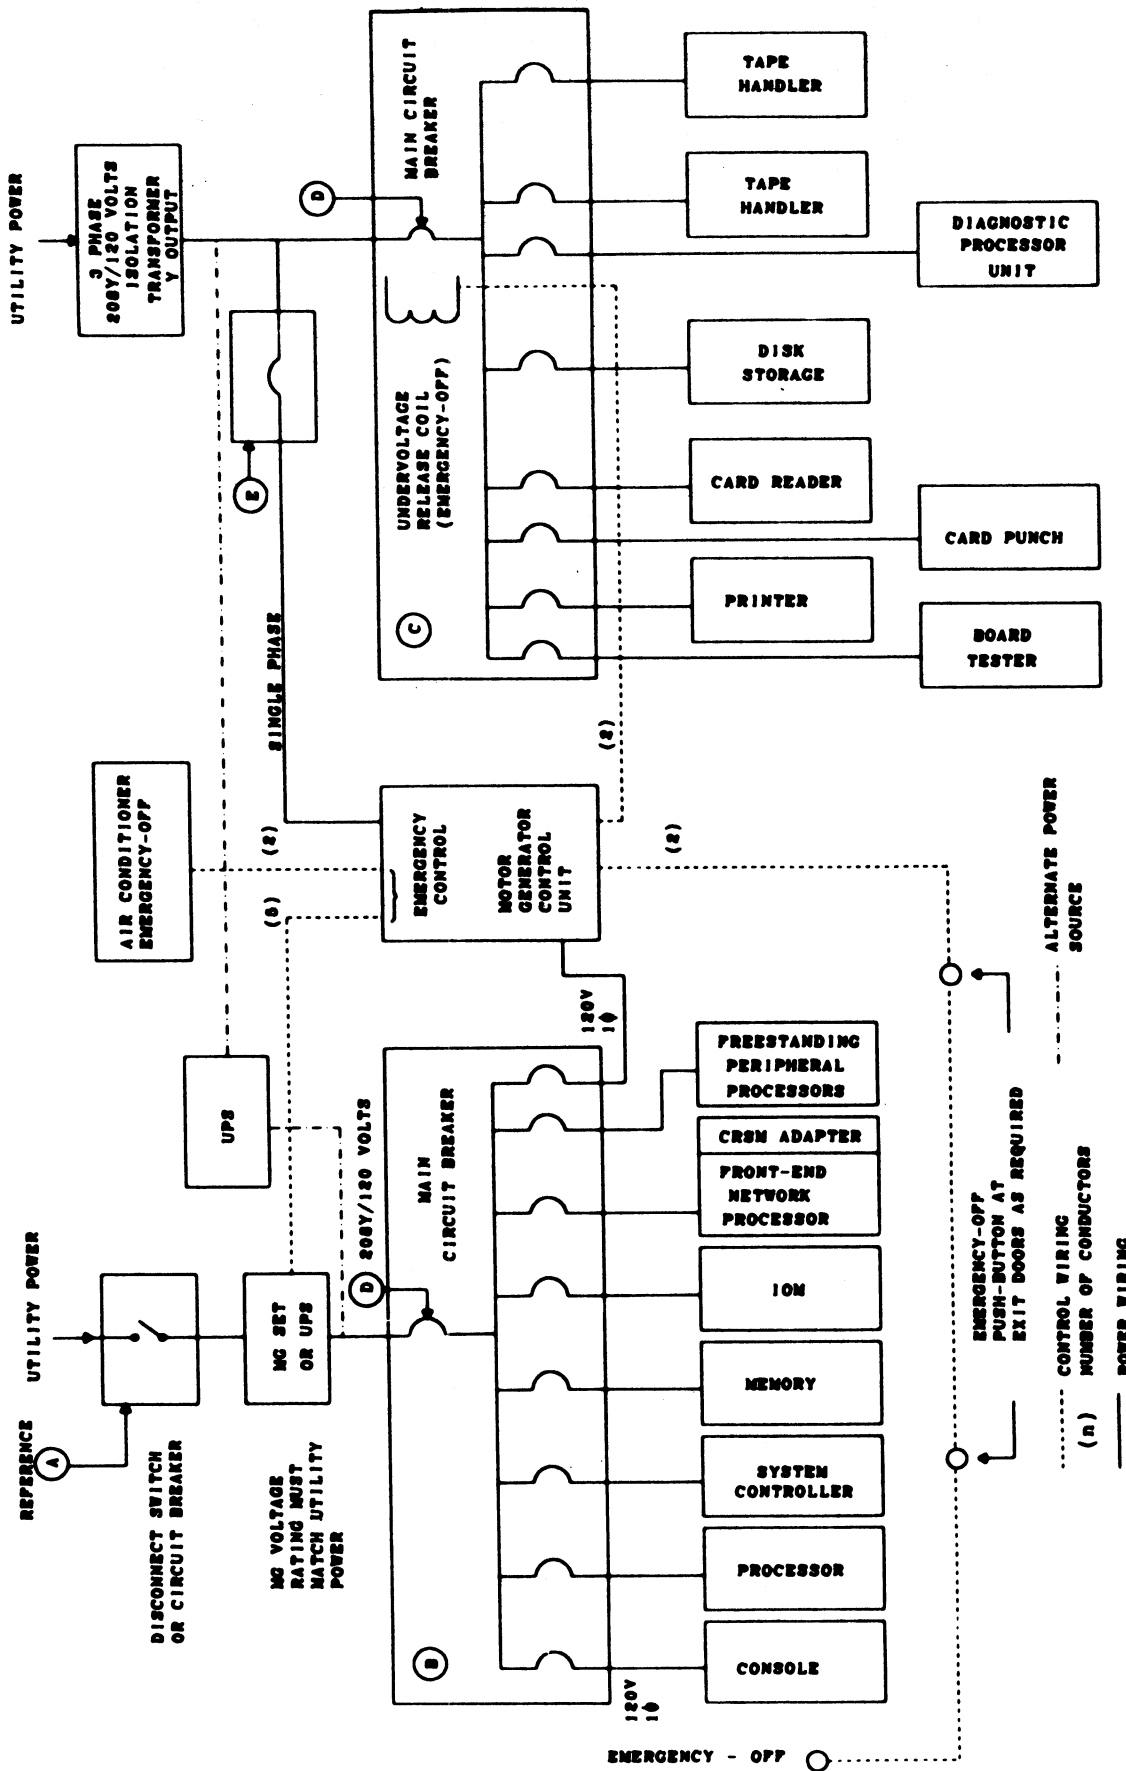

FIGURE 4-1. POWER SYSTEM DIAGRAM
You must furnish and install utility power for the computer site in accordance with the system power schematic, Figure 4-1. It is also your responsibility to furnish and install the electrical equipment for the installation, including fittings, distribution panel, the raised floor cutouts, transformer(s) and voltage regulator(s) or motor generator. Future site expansion should always be considered. Provision for extra power facilities can save added installation costs later.
Figure 4-1 shows a typical power system diagram. It is the customer's responsibility to supply, install and maintain the following materials. (See Section 8 for required circuit breaker capacities.)
- The disconnect switch or circuit breaker for the input to the transformer or motor generator set (Reference A, on Figure 4-1).
3. The 15A circuit breaker must be connected to the utility as shown in Figure 4-1 (Reference E) to permit the air conditioner to start up automatically after a power line outage. When power is lost, the main circuit breaker in the peripheral load center must be manually reset to restore power to the devices it supplies. If the MG control unit took power from the peripheral distribution panel, the air conditioning is not restored until the main breakers are reset.